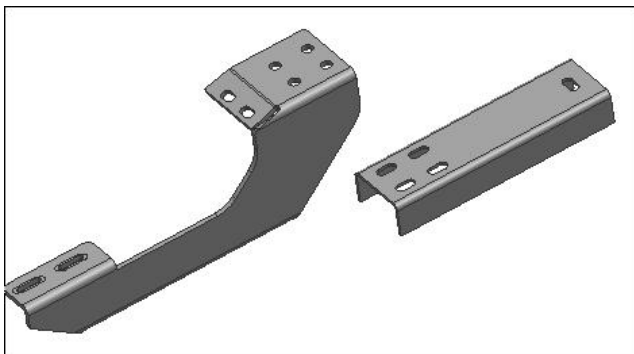

Fig 1
- Select (1) Front Mounting Bracket and (1) Front Support Bracket, **(Figure 1)**. Line up the (4) main mounting holes in both brackets and bolt the Support Bracket to the bottom of the Mounting Bracket with the included (4) M8 x 20mm Flange Hex Bolts and (4) M8 Locking Flange Nuts, **(Figure 2)**. Do not tighten hardware at this time.